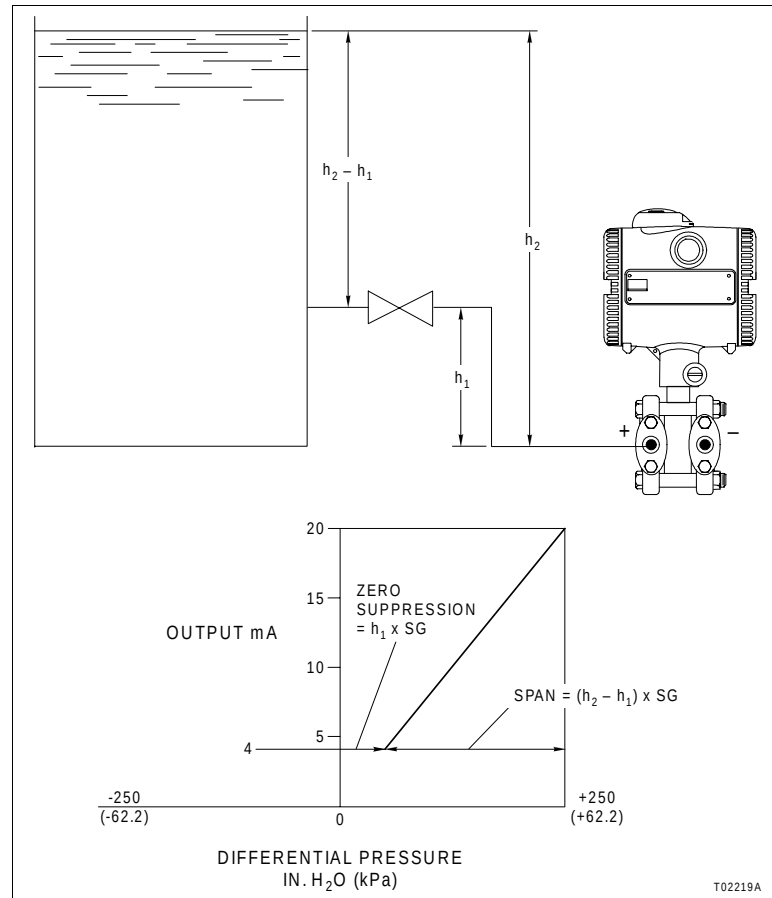

Figure 3-7. Open Tank Level Measurement
In an open vessel, level can be measured by making a pressure measurement (P) at the bottom of the vessel (Figs. 3-7 and 3-8).
5. The output of the transmitter is proportional to the level of the liquid above the cell multiplied by the specific gravity of the liquid. If the zero point of the desired level range is above the cell, the lower range value must be changed to reflect this. Refer to Section 4 and Appendix B for more information. Refer to Figure 3-7 for a graphical representation of this application.